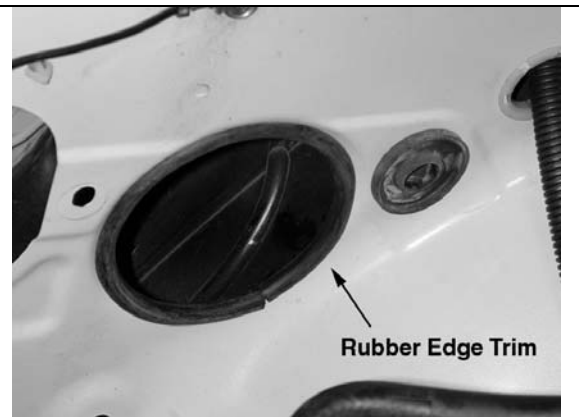

Fig. 8
- d) Install the rubber edge trim around the edge of the hole that passes through the fender. Note: *The edge trim will need to be cut to size.* **(Fig. 8)**